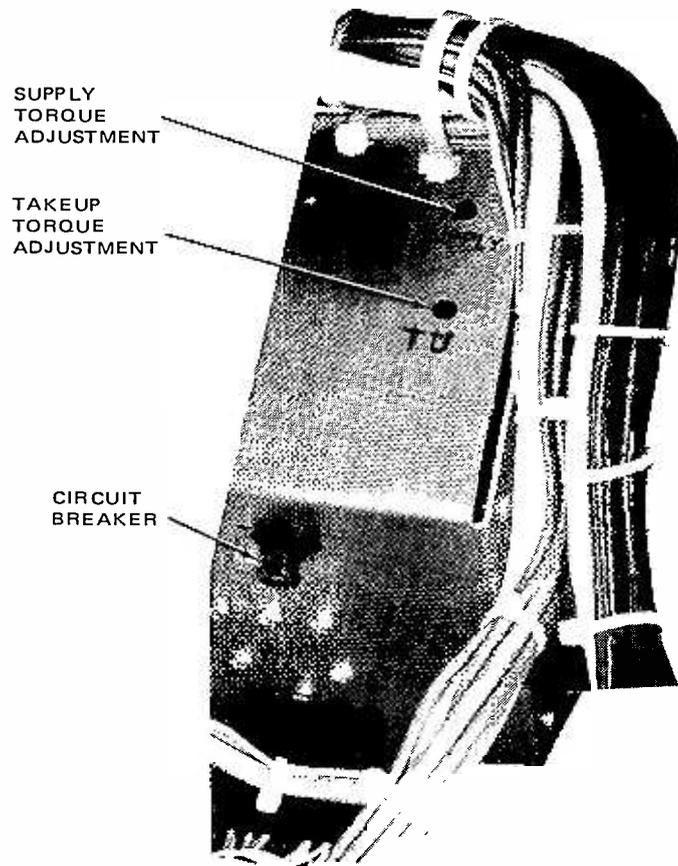

Figure 5-6. Triac Control Box
6. Hold onto the takeup reel hub momentarily and press the PLAY pushbutton. As the cord is wound onto the reel hub, move the scale smoothly towards the reel hub, keeping the cord at the tension that just balances the torque. Note an indication of 1 lb 8 oz (+2, -0 oz) on the scale. Adjust the T.U. control on the triac control box, if necessary, to obtain this reading. (See Figure 5-6.)
6. If necessary, lift the tape transport to the tilted position and adjust the SUPPLY potentiometer in the triac control box (see Figure 5-6) under the tape transport and repeat step 5.